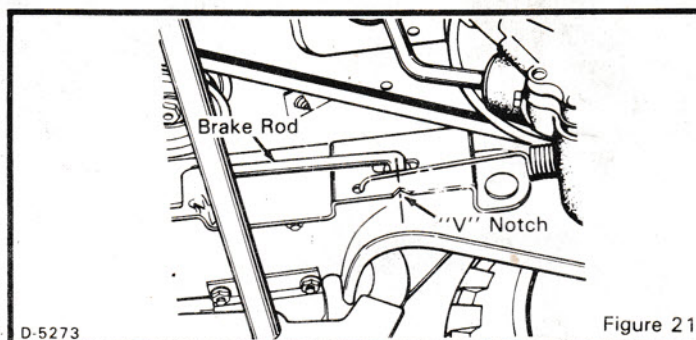

Figure 21
- Release the parking brake and check for proper adjustment of the brake rod (figure 21). The center end of the brake rod must line up with the center of the "V" notch as shown in figure 21.